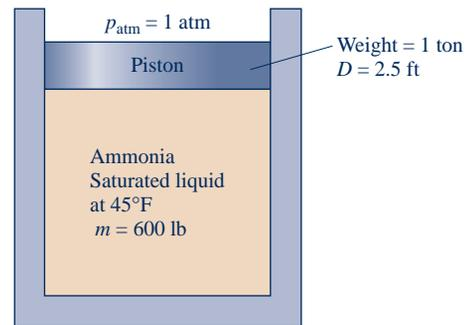

Fig. P3.31
- 3.31** As shown in Fig. P3.31, a cylinder fitted with a piston is filled with 600 lb of saturated liquid ammonia at 45°F . The piston weighs 1 ton and has a diameter of 2.5 ft. What is the volume occupied by the ammonia, in ft^3 ? Ignoring friction, is it necessary to provide mechanical attachments, such as stops, to hold the piston in place? Explain.